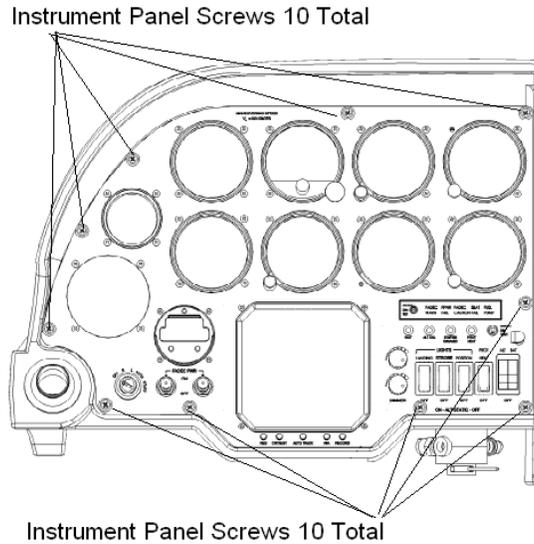

Figure 34-18 Location of the Ten Screws Securing The Instrument Panel
12. Install the ten screws to secure the instrument panel to the console. See Figure 34-18 for the location of the ten screws.